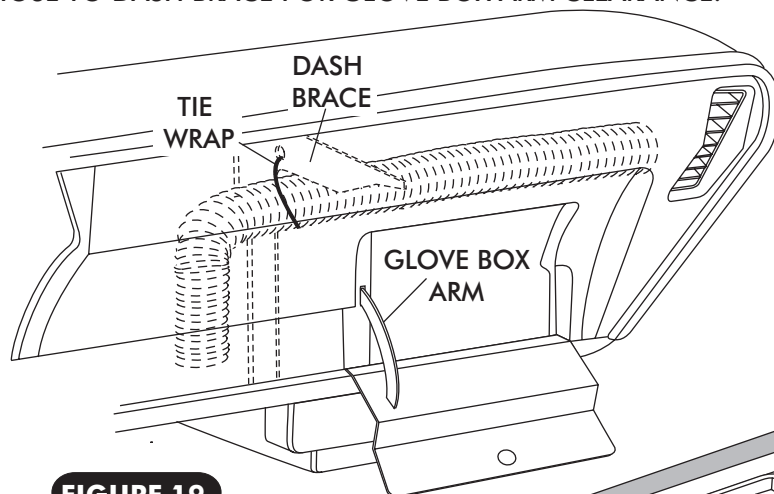

FIGURE 19
- INSTALL DUCT HOSES AS SHOWN IN FIGURE 19 & 20, PAGE 17.